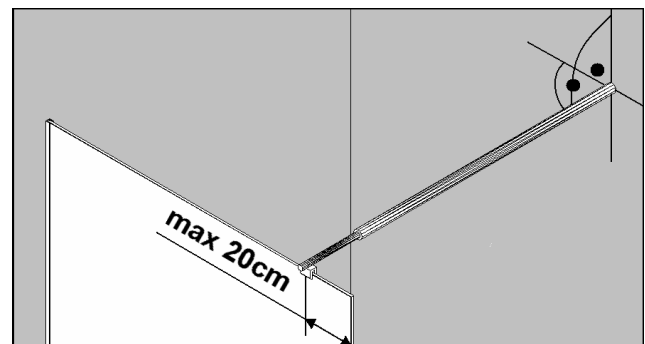

Figure 6
- The tube should be at right angles to the wall and it should be fixed on the glass at a maximum distance of 20cm from the glass corner (**Figure 6**).